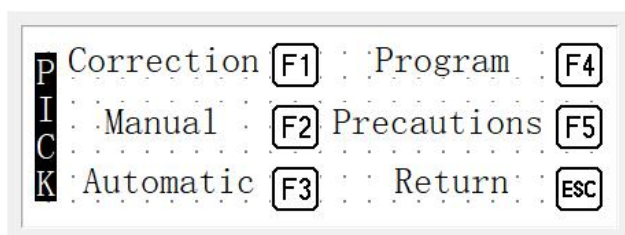

Figure 6.2
6.2. Press "▼" key to enter "Function :Selection" page: See Figure 6-2.